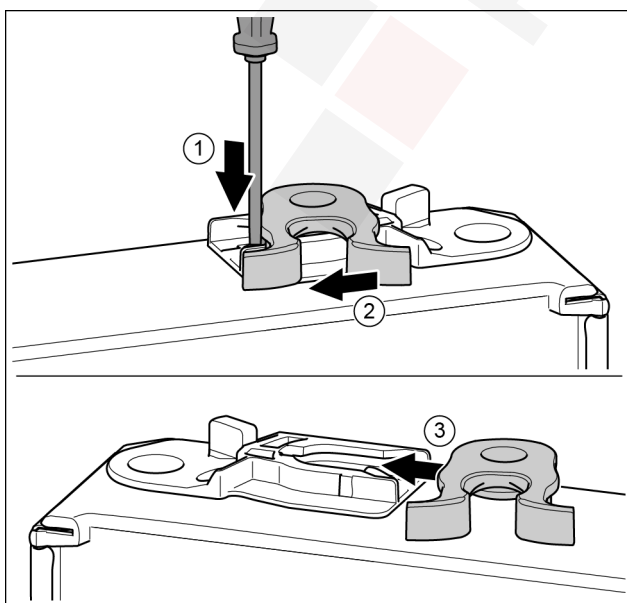

Fig. 33 \*
- Push the tab downwards with a slotted screwdriver. Fig. 33 (1) \*
- Pull the door latch out of the guide. Fig. 33 (2) \*
- Push the door latch into the guide on the other side. Fig. 33 (3) \*